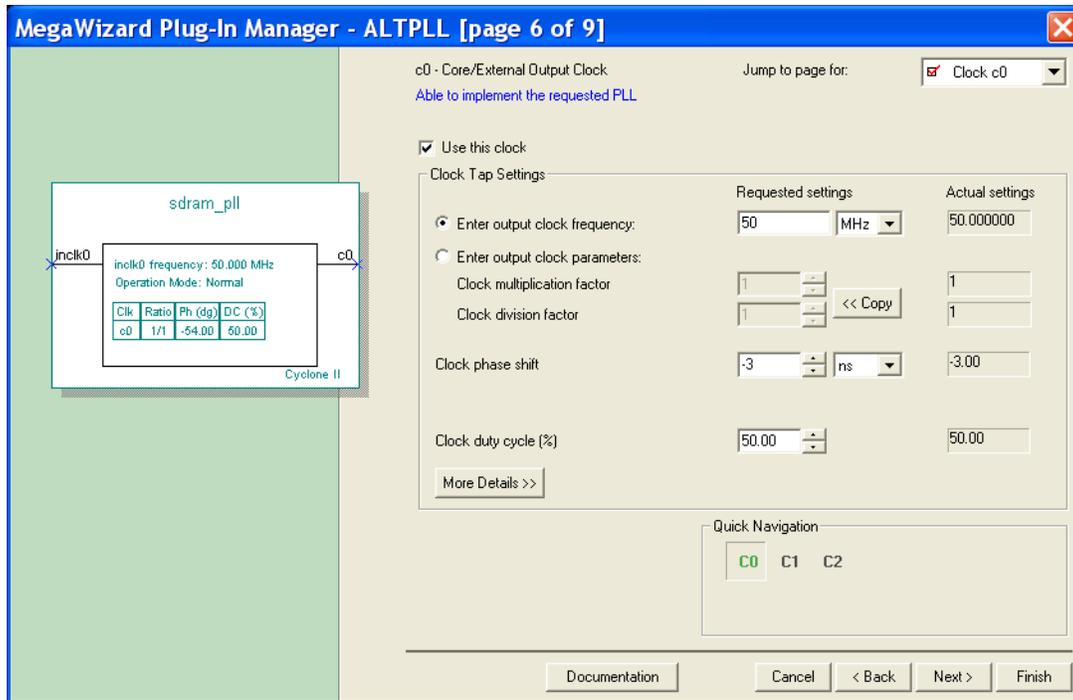

Figure 14. Specify the phase shift.
- We are interested only in the input signal *inclk0* and the output signal *c0*. Remove the other two signals shown in the block diagram in the figure by de-selecting the optional input *areset* as well as the locked output, as indicated in the figure. Click **Next** on this page as well as on page 5, until you reach page 6 which is shown in Figure 14.